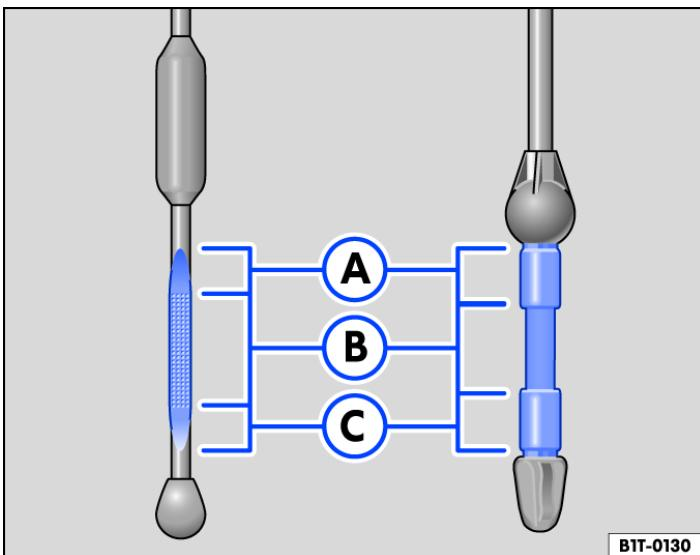

Fig. 1 Oil dipsticks with markings (variants).
- Pull out the oil dipstick again and read the engine oil level on the dipstick as follows → *Fig. 1*:
- After filling, the engine oil level should be in the middle of the area → *Fig. 1* **B**. It should not be above **B**, i.e. in area **A**, nor should it be above area **A** → *Checking the engine oil level and refilling engine oil*.